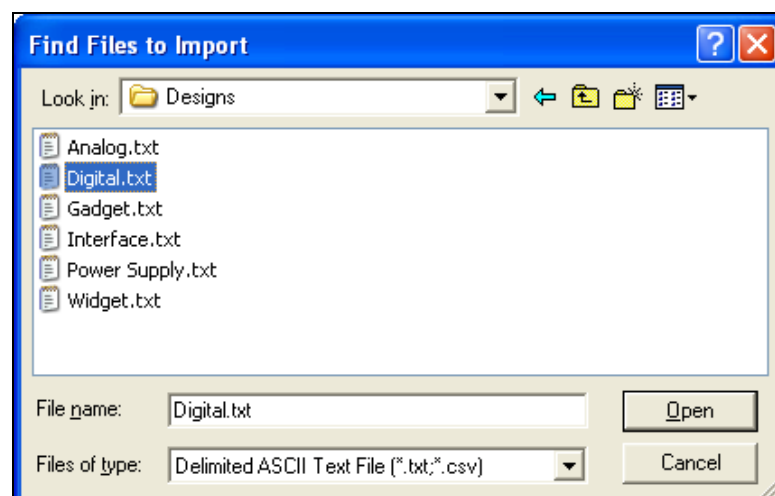

Figure 12. Select File to be Imported
23. Select **Browse...** and go to the location that contains the text file saved in Step 18. Select the file, and then select **Open** (See Figure 12).